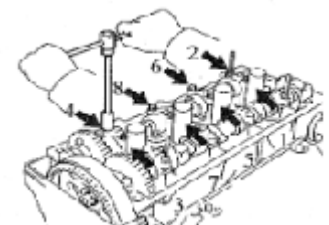

Figure 14
(4) Uniformly loose and remove 8 bearing cap bolts in several passes as shown in the figure. See (Figure 14).
(5) Remove 4 bearing caps and camshafts.